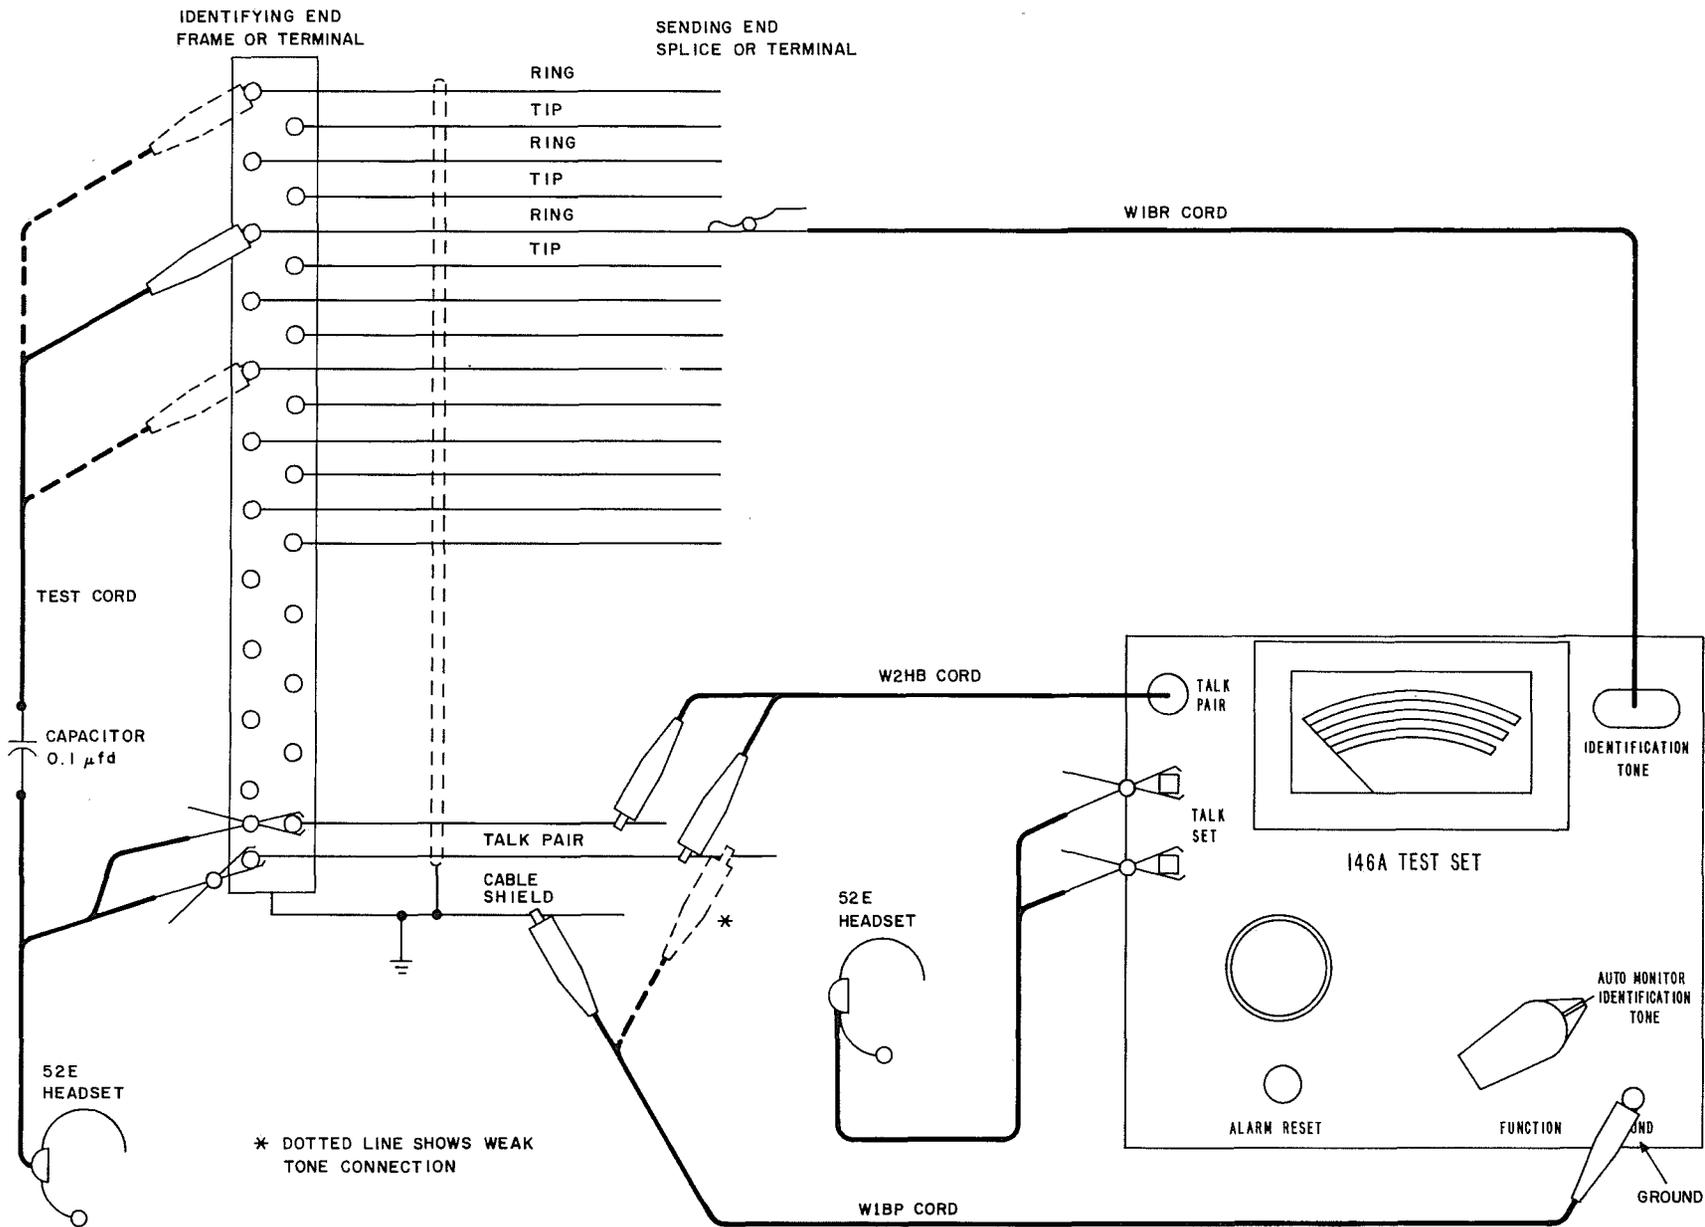

Fig. 13—Wire Identification at Frame or Terminal Block Using Headset and Capacitor—Tone Put on in Field Location
5.30 Plug the W1BR cord into the IDENTIFICATION TONE jack. Set the FUNCTION switch to AUTO MONITOR IDENTIFICATION TONE. Connect the test set GROUND to the cable shield using the W1BP cord (Fig. 13).